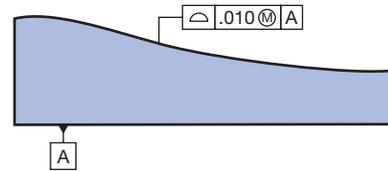

Figure A-91 Drawing for question 2.
2. Explain the profile tolerance shown in Figure A-91.